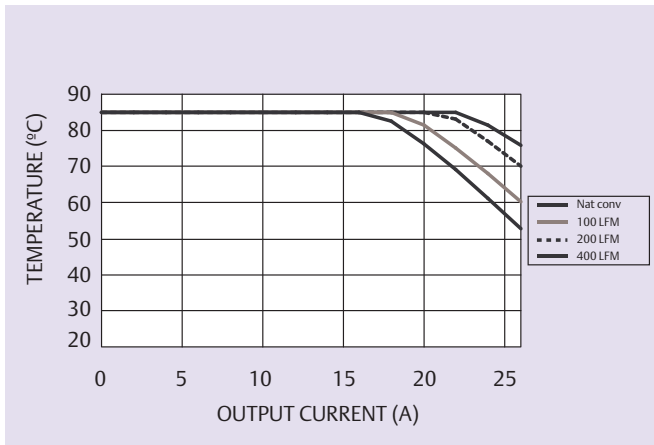

**Figure 1 - Safe Operating Area**
- See Figure 1 for safe operating curve of the PTH12030W and Figure 4 for safe operating curve of PTH12030L.